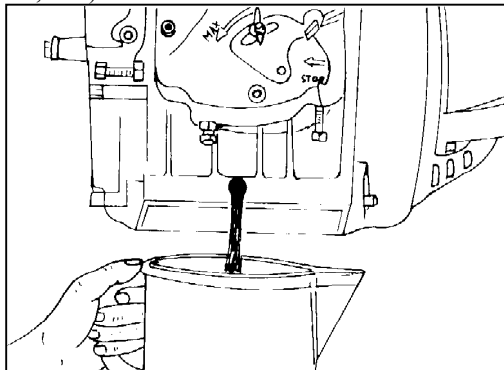

Figure 15
- ❖ Remove the oil drain plug (figure 26, #45) and discard of oil properly. See figure 15.